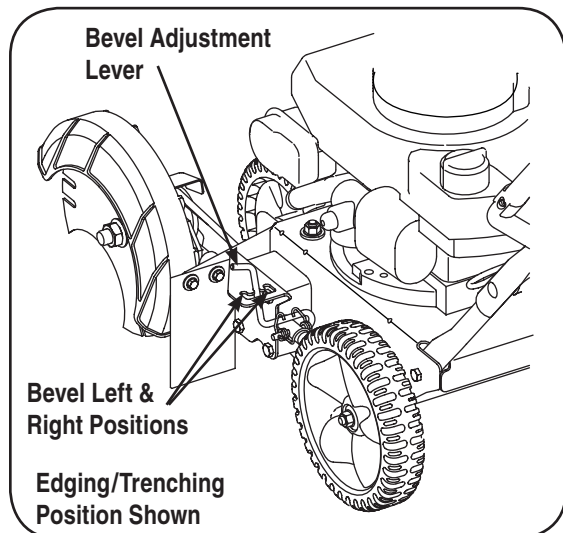
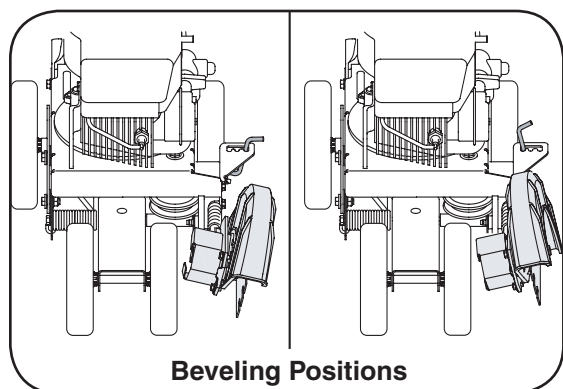
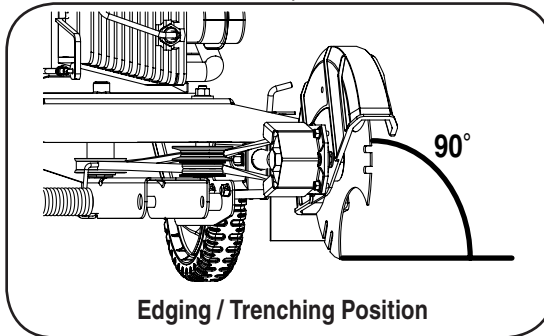

Figure 5
Figure 6
Figure 11
The angle of the edger blade can be adjusted by placing the bevel adjustment in one of three positions for edging/trenching or beveled edging. See Figure 5.
In order to achieve a bevelled edge, set the bevel adjustment lever (refer to Figure 5) in the first (left hand) or third (right hand) notch to place the edger blade in position for beveling (See figure 6).
9. Set the bevel adjustment lever (refer to Figure 5) in the center notch to place the edger blade in a 90° position (see Figure 11) and place the blade depth control lever in the lowest position.